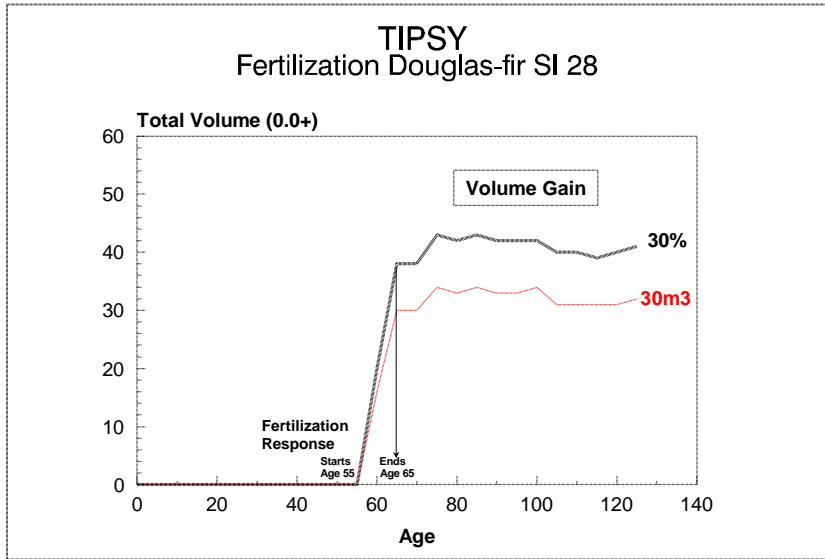

Figure 7. Fertilization Periodic Volume Gain
- Fertilization (Figures 7 and 8)